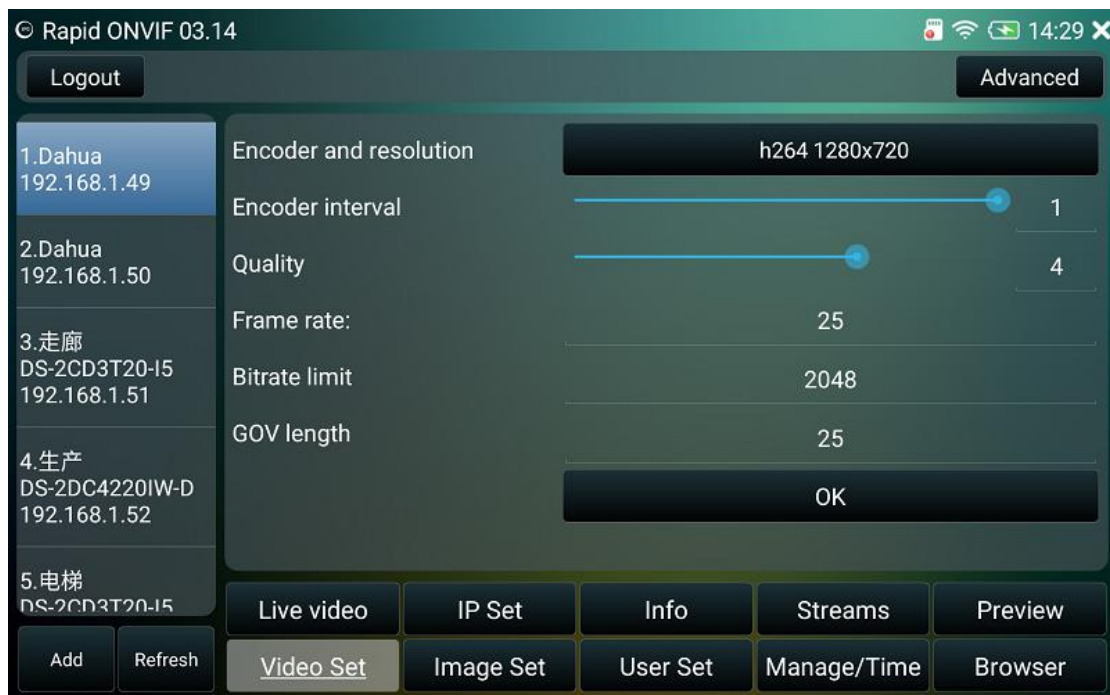

Figure 25
5) Video setting, touch 'Video Set' button to enter video stream setting interface, you can set 'Encoder and resolution', 'Encoder interval', 'Quality', 'Frame rate', 'bit rate limit', 'GOV length' parameters, after setting touch OK to apply settings, as shown in Figure 25